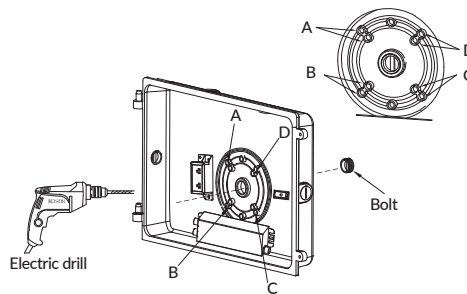

Figure 2
- Prepare the rear housing for mounting by drilling or knocking out points A/B/C/D to get four holes matching the Junction box design (provided by others); Unscrew the rear bolt(1) from the center. (Figure 2)